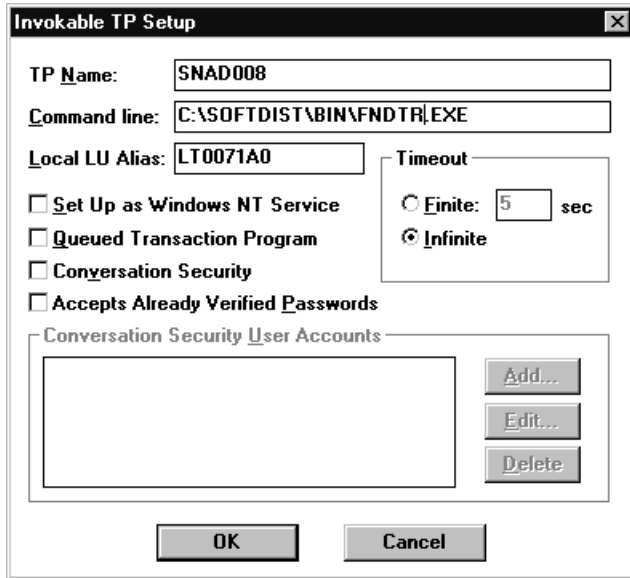

Figure 113. Configuring the local Transaction Program, for the RECEIVE function
1. Fill in the following fields as shown in Figure 113 on page 193: